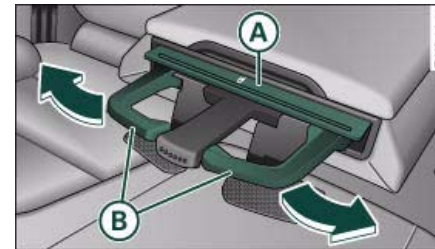

Fig. 97 Cup holder in rear armrest
- Press the symbol  (A) ⇒ fig. 97.